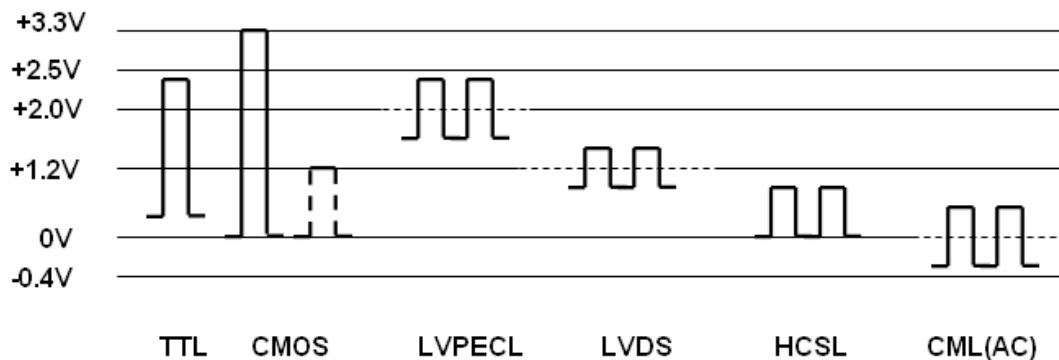

Figure 1. LVPECL LVDS HCSL and CML voltage levels
The Figure 1. diagram shows LVPECL, LVDS, HCSL and CML(AC) voltage levels vs. CMOS clock. The CML(AC) is listed because CML is always used in AC coupling and its DC voltage level is much related with its Vcc supply.